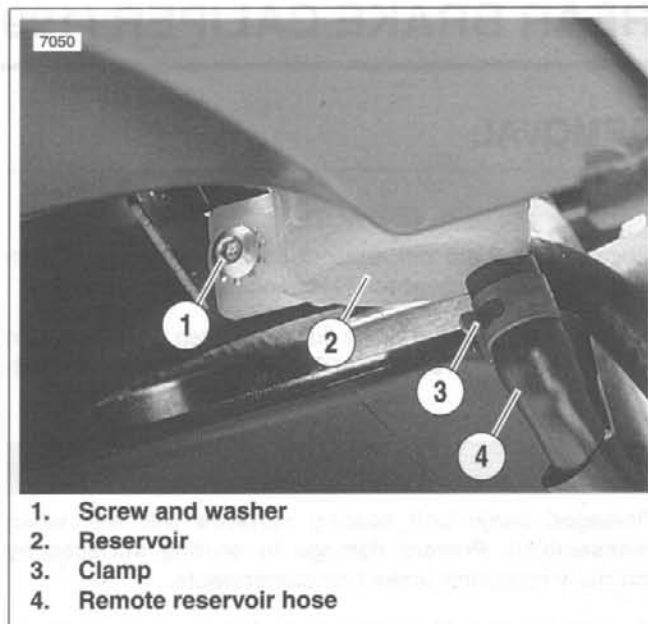

Figure 2-47. Remote Reservoir
7. See Figure 2-47. Detach remote reservoir.
1. See Figure 2-47. Connect remote reservoir.